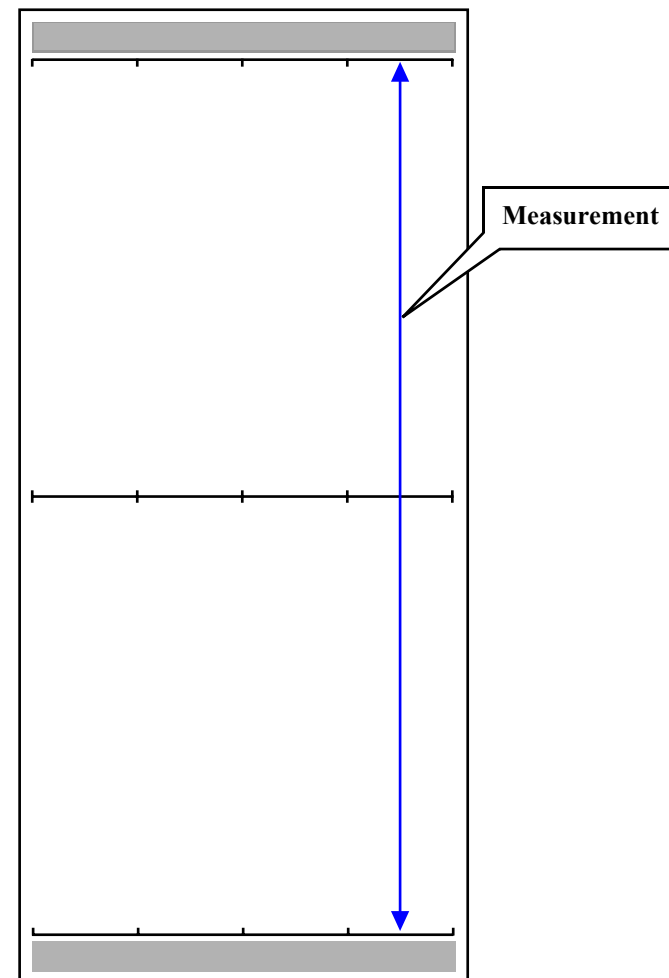

Figure 5-58. Adjustment Pattern
4. Measure the distance shown in Figure 5-58 with a 1000 mm ruler and a scale stopper.